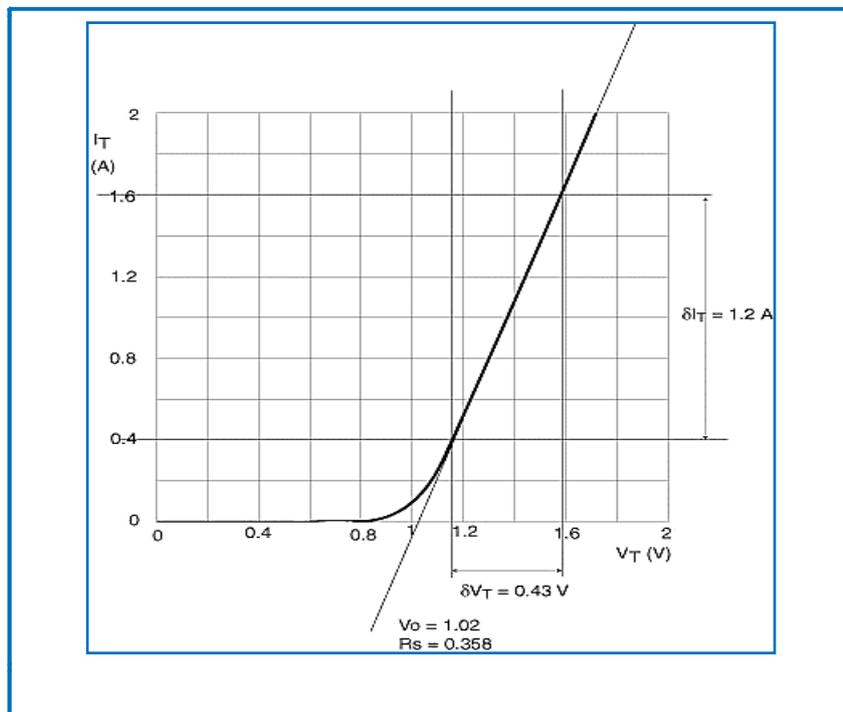

Fig. 2. Using the extrapolated line method to generate V_0 and R_s .
5. An *idealized* example is shown in Fig. 2 for a 1 Amp triac.